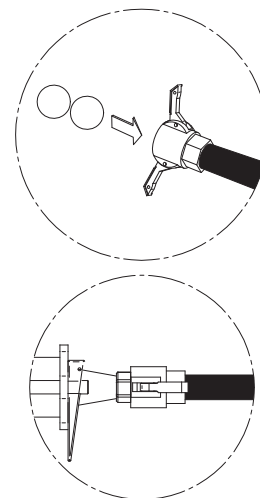

FIG.8
- While the pipelines are still full, insert two cleaning sponges and refit the pipeline in the manifold (fig.8)